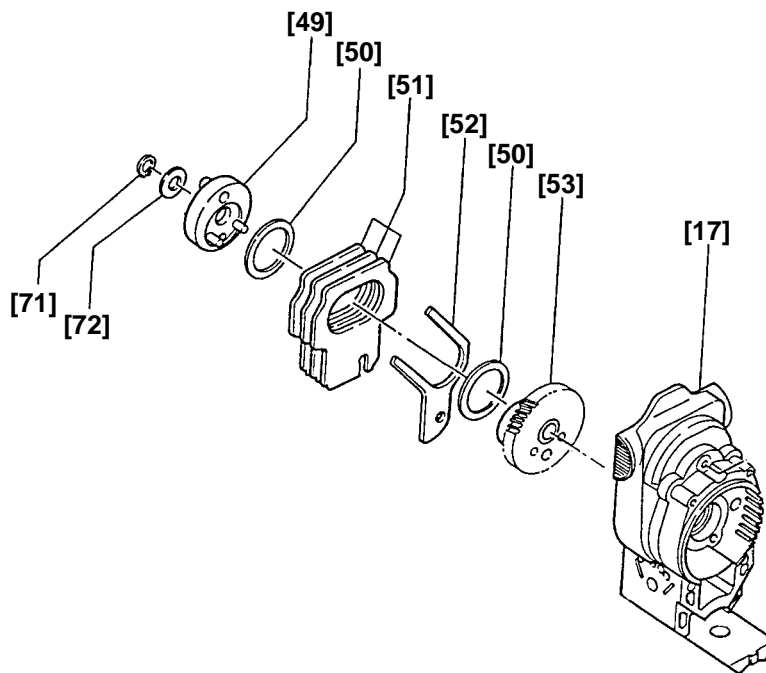

Fig. 7
(6) Disassembly of the Weight Holder [49] from the Gear Cover [17] (Fig. 7)